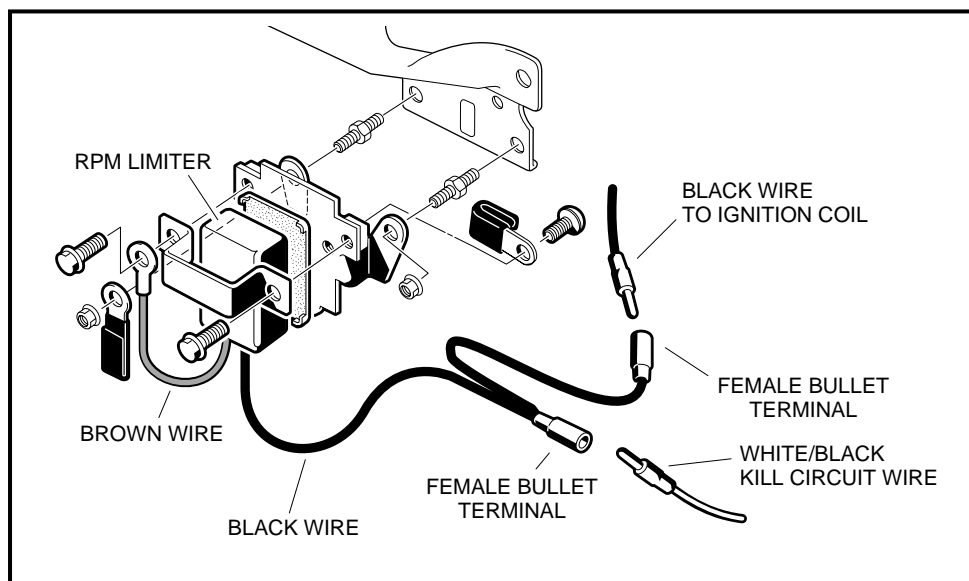

Figure 11-40 RPM Limiter
2. Disconnect both of the bullet terminals (**Figure 11-40, Page 11-34**).
- 2.1. Disconnect both of the bullet terminals at the RPM limiter. Place the black (–) probe of the meter on the male bullet terminal of the wire connecting to the coil under the fan housing, and place the red (+) probe on a clean unpainted surface of the engine or frame (**Figure 11-40, Page 11-34**).